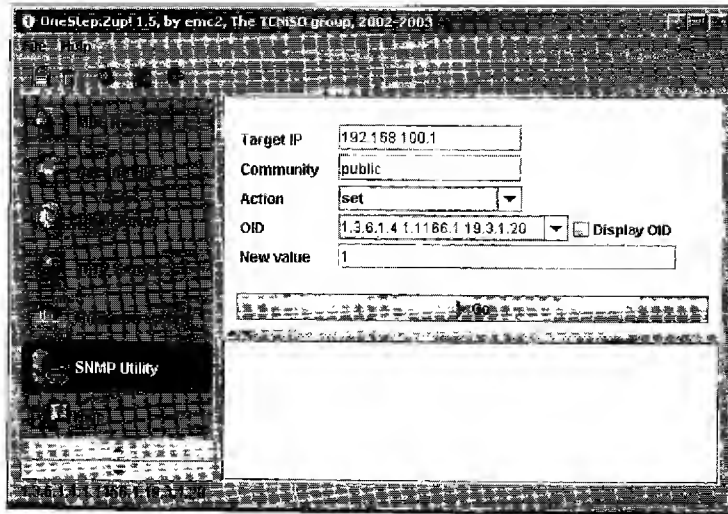

Figure 12-6: The SNMP agent in OneStep
Simple Network Management Protocol (SNMP) is used to control and monitor Internet-ready devices, such as cable modems. Devices that are to be monitored and controlled by SNMP run a compatible daemon (the server), and users who want to control the device communicate with it using SNMP agent software (see Figure 12-6). The SNMP server uses a password-like feature called a *community string* for security. Only requests that contain this specific string are executed; all other requests are ignored.
To enable hybrid mode using an SNMP agent (like the one included in OneStep), change the cmHybridMode OID (1.3.6.1.4.1.1166.1.19.3.1.20) to true (1). To disable hybrid mode, or change the modem back to its original settings, set this value to false (2). Figure 12-6 shows how to enable hybrid mode in OneStep (www.tcniso.net/Nav/Software). If you receive a time-out error from your SNMP agent utility, then you are either using the wrong community string, or the SNMP server on the modem is disabled, or you are not properly connected to the modem.